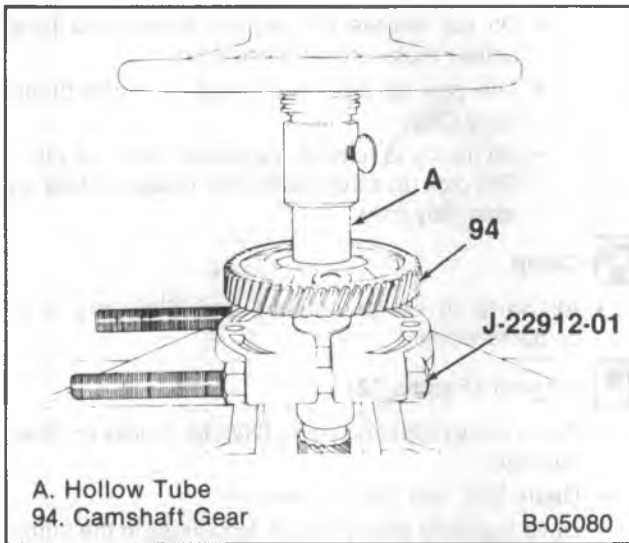

Figure 30—Installing the Camshaft Gear
- Support the camshaft (182) at the front journal with tool J-22912-01 (or equivalent) (figure 30). Mount the camshaft in a press as shown.
- Lubricate the thrust plate (95) with engine oil.
1. Key (96) (if removed).
2. Spacer (97). Make sure the chamfer in the spacer faces towards the journal radius.
4. Camshaft gear (94).
- Press the camshaft gear onto the camshaft until it bottoms on the spacer (figure 30).